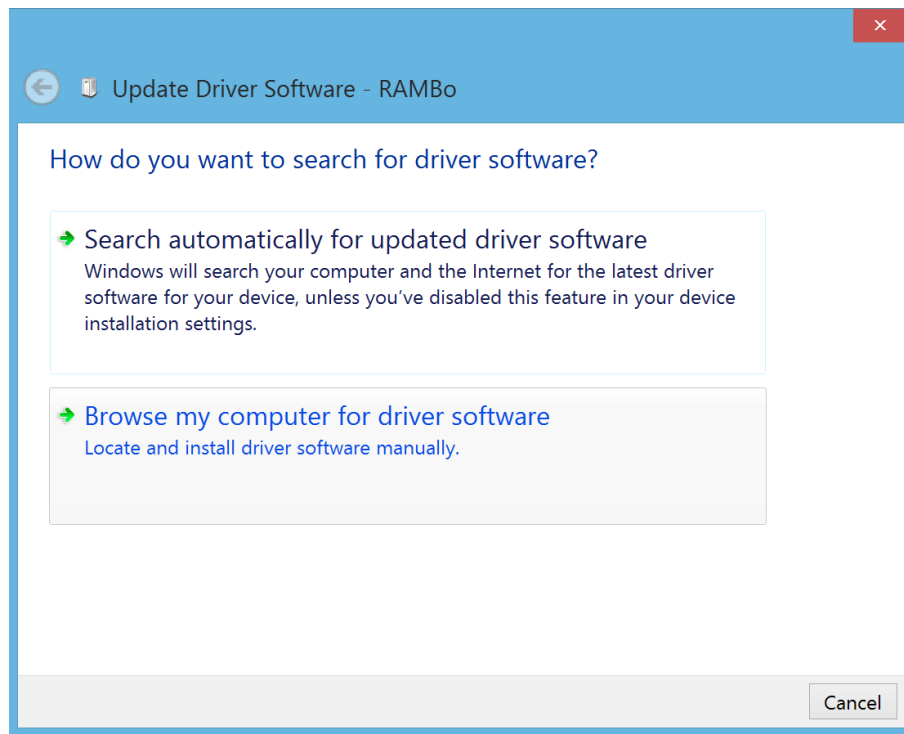

Figure 2.3: Select “Browse my computer...”
5. A window will pop up, asking whether to "Search automatically..." or "Browse my computer...". Select "Browse my computer..." (Figure 2.3)